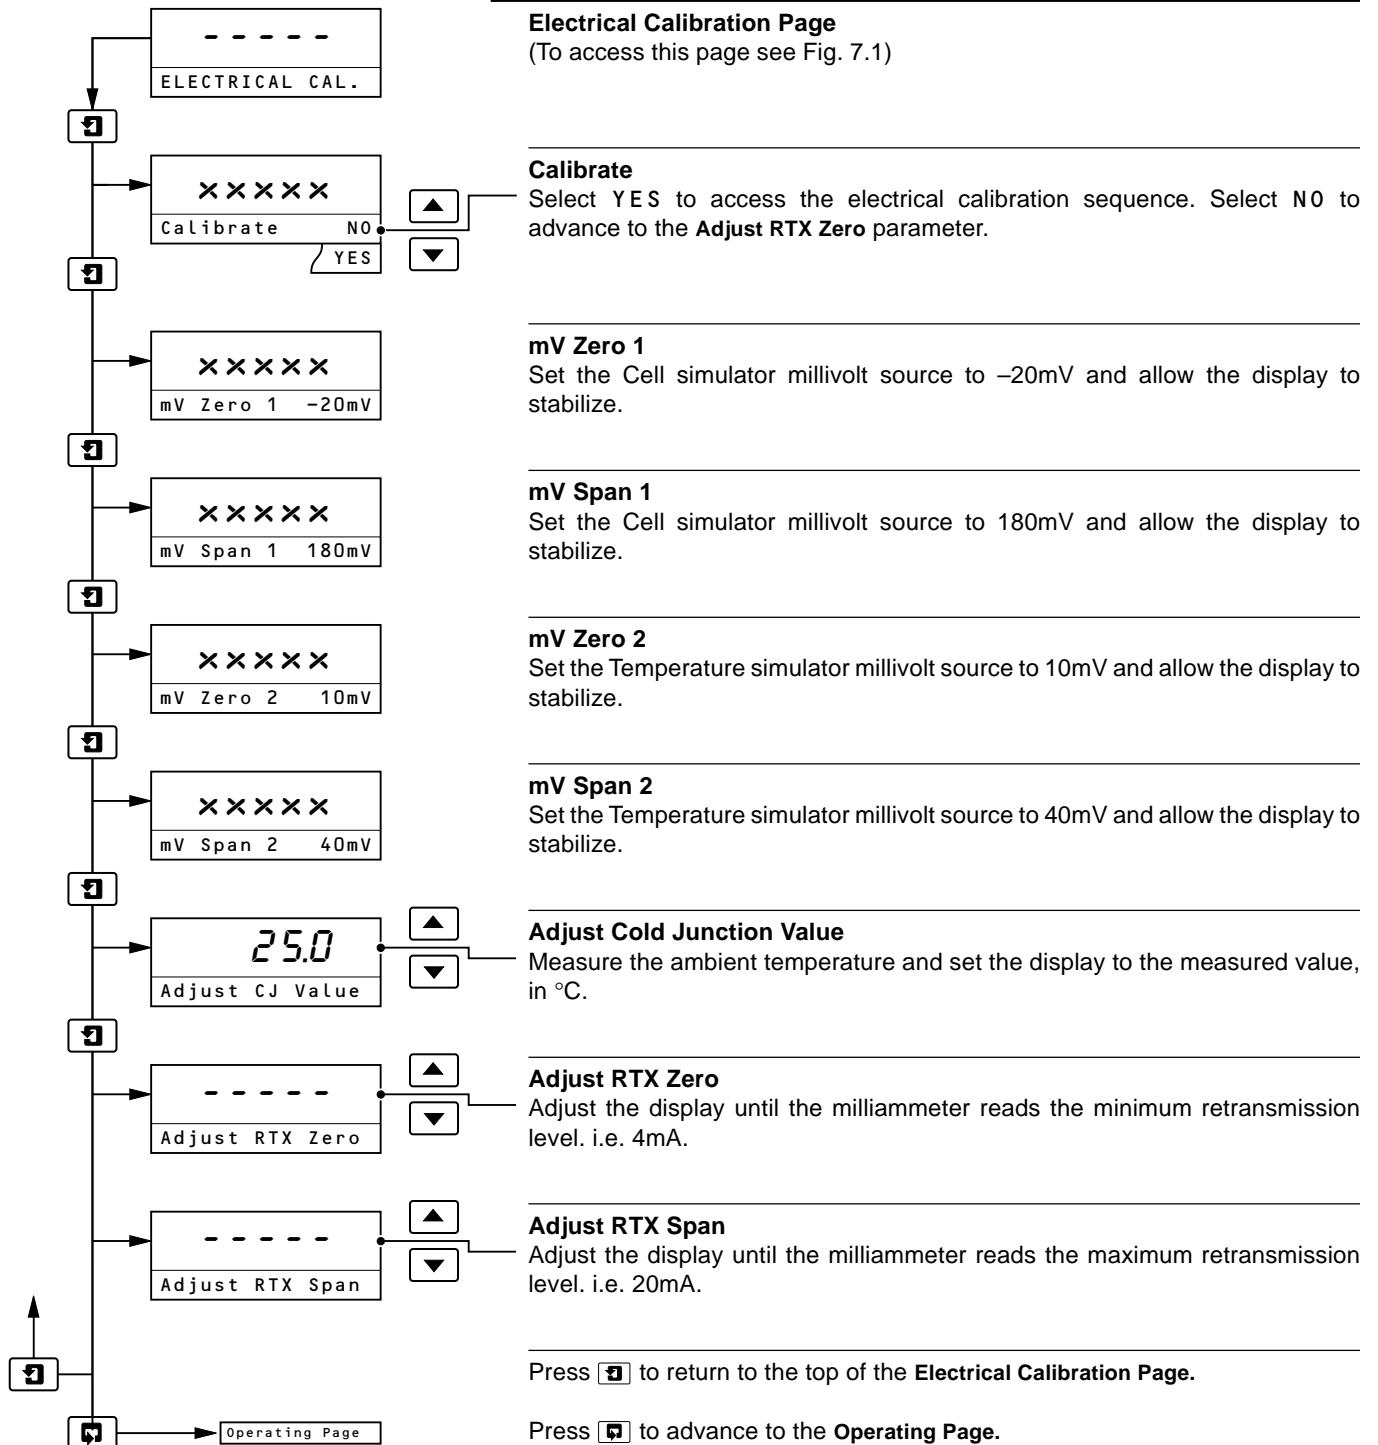

**Fig. A.1 Electrical Connections – Calibration**
- b) Connect the millivolt sources and the milliammeter to the appropriate terminals – see Fig. A.1.